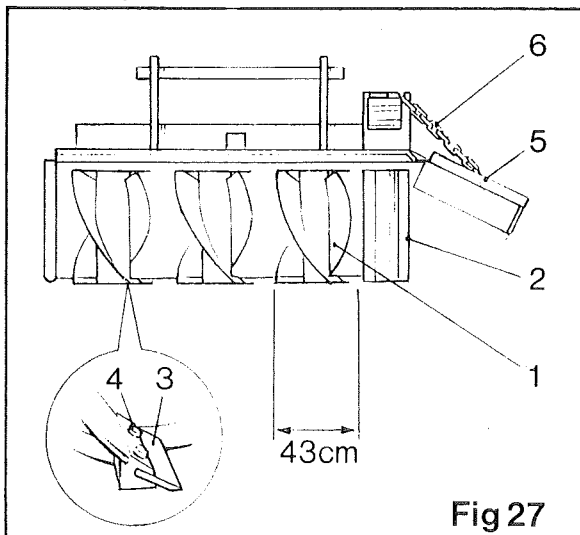

Fig 27
The Turbo-Topper is a unit designed to cut the leaf from the beet by means of the rotating cutters (item 1 fig 27) prior to the beet being topped by the scalpers.
The tops are transferred from one rotor to the other and then out of the side by means of the rotating speed of the rotors. The suction of the spiral fins welded round the rotors lifts any loose leaf and trash, leaving a clean path for the lifter, note, that a plain rotor (item 2 fig 27) is fitted to a three row topper. Its purpose is to throw the beet tops clear of the tractor wheel.
The cutting width of each individual rotor (item 1 fig 27) is 17 inches (43 cms). The overall cutting width of all four rotors is 54 inches (137 cms) on a three row and 74 inches (187 cms) on the four row topper. Row widths of from 16 inches (48 cms) to 21 inches (56 cms) can be obtained.
Steel knives (item 3 fig 27) are fitted to the rotors and can be removed or replaced by removing the retaining patch bolts (item 4 fig 27). When fitting or removing patch bolts, care should be taken not to overheat the nylon locking material fitted to the bolt. Always replace the bolts with new after they have been removed or fitted twice. Never set the topper so that the knives touch the soil as damage to the knives will ensue.
The sugar beet tops discharge end of the topper is fitted with a hinged tops deflector flap which can be adjusted to a high or low position, according to the amount of beet tops, to form a windrow or to spread the tops. Adjustment is made by lengthening or shortening the support chain. (item 6 fig 27).